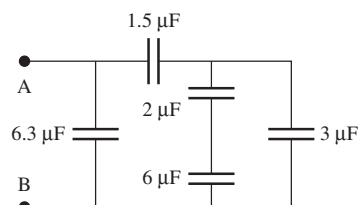

FIGURE P4.29 Capacitor network.
- 4.29 (A) Find the equivalent capacitance between points A and B in Figure P4.29.